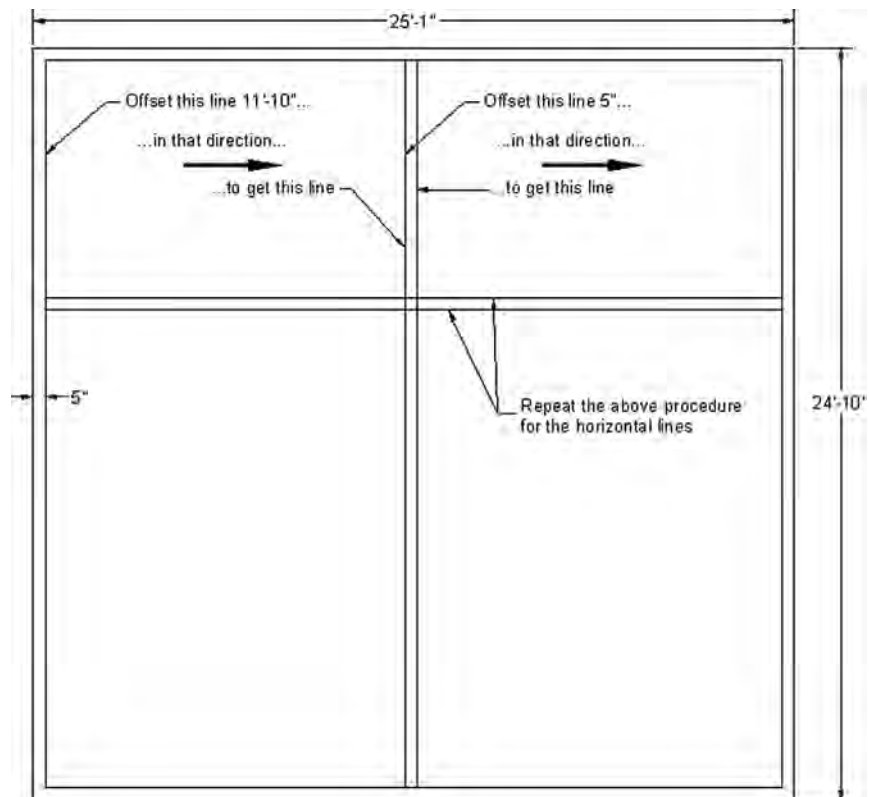

FIGURE 3.15
8. Offset the inner left vertical wall 11'-10" to the right to create part of the kitchen wall. Then, right away, offset 5" for the thickness of the wall. Repeat with the inner top horizontal wall (offset 7'-10") to get the lower part of the kitchen. Offset 5" below that line for thickness. Figure 3.15 illustrates this. Note that, along the way, you will run into fractional lengths to offset (11'-8½" for example). Don't forget that to enter fractions you just simply type in a decimal equivalent (11'8.5 in this case).